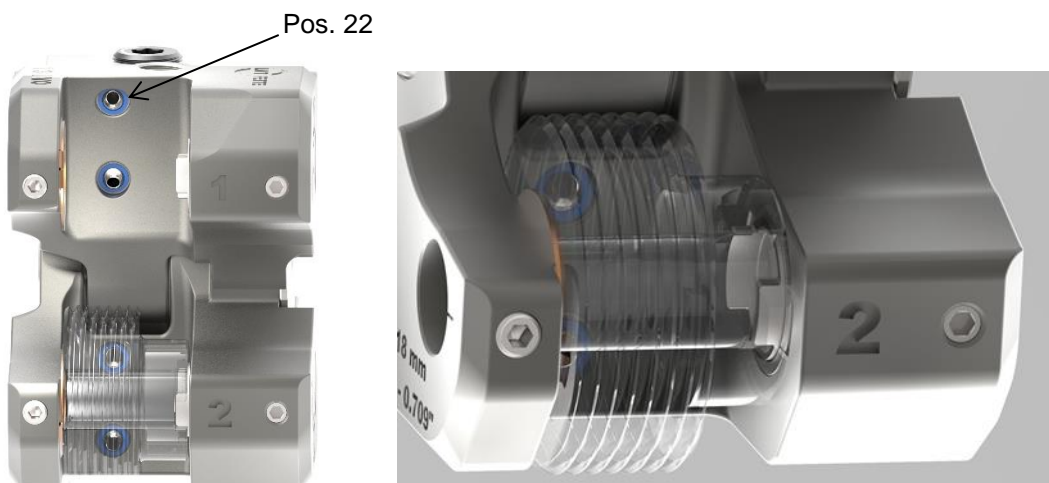

Figure 14: Adjusting the cooling and spraying system
The spring-loaded bolt (ET-31-2) can be inserted in the rolling head holder at two positions (see Figure 14). If the upper thread roll (1) rotates in the same direction as the workpiece (2), the spring-loaded bolt (ET-31-2) also has to be inserted in the holder at the top (and accordingly).